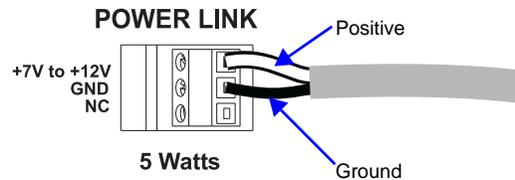

FIG. 5 Wire power connector
3. Insert the power cable ground and positive wires into the slots (FIG. 5) and tighten the screws.